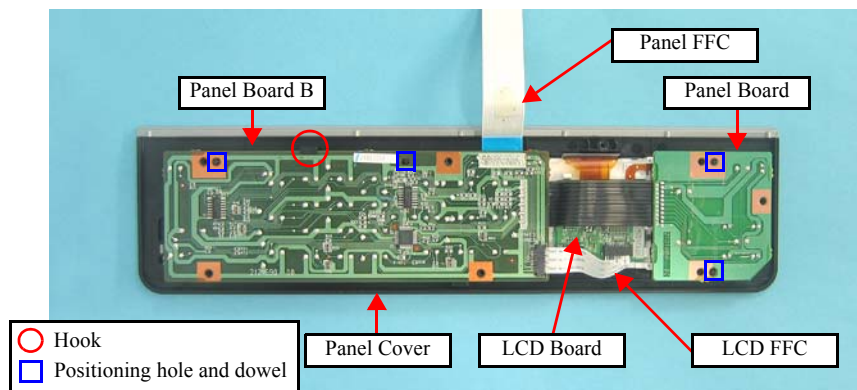

Figure 4-34. Removing the Panel Board/ Panel Board B
- When installing the Panel Board and Panel Board B, make sure to match the positioning holes (x4) with their positioning pins of the Panel Cover as shown in Figure 4-34.